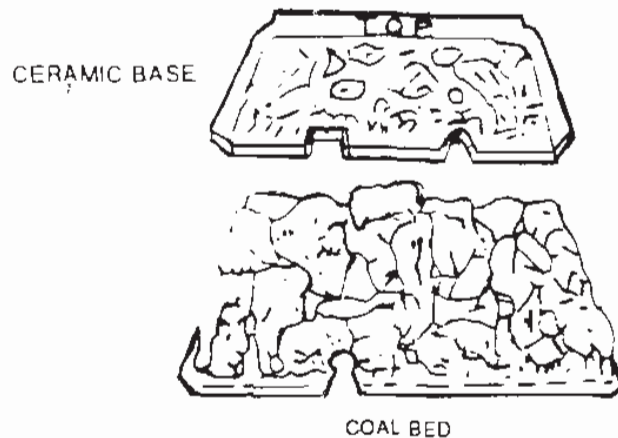

FIG. 5A
5.6 INSTALL FUEL EFFECT COMPONENTS (Fig. 5A)